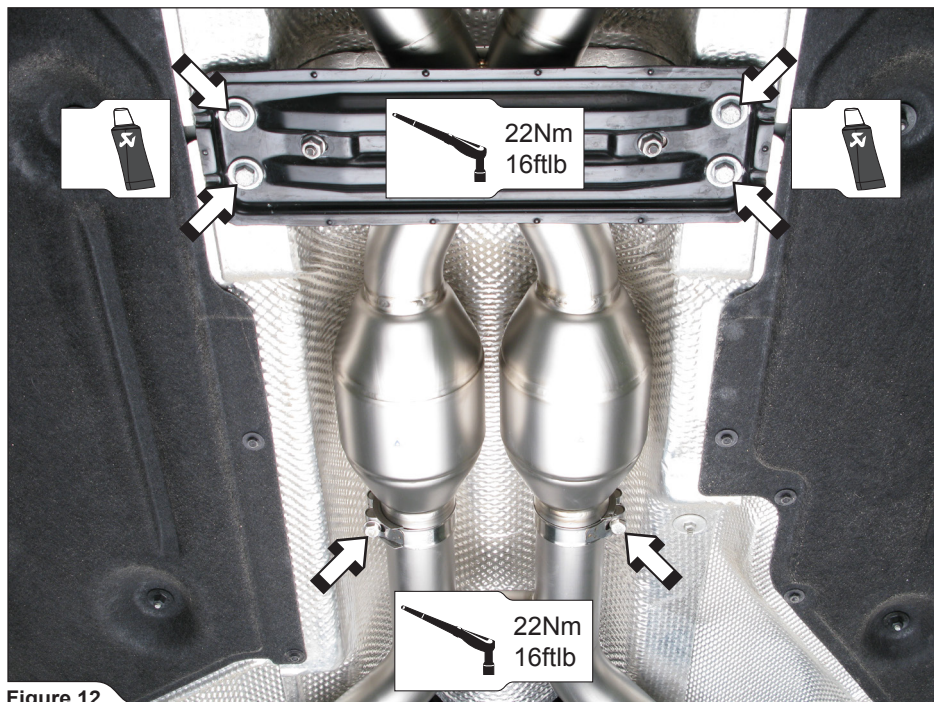

Figure 12
- Slide the middle pipes onto the headers, tighten the stock bracket and clamps to a specified torque (**Figure 12**).